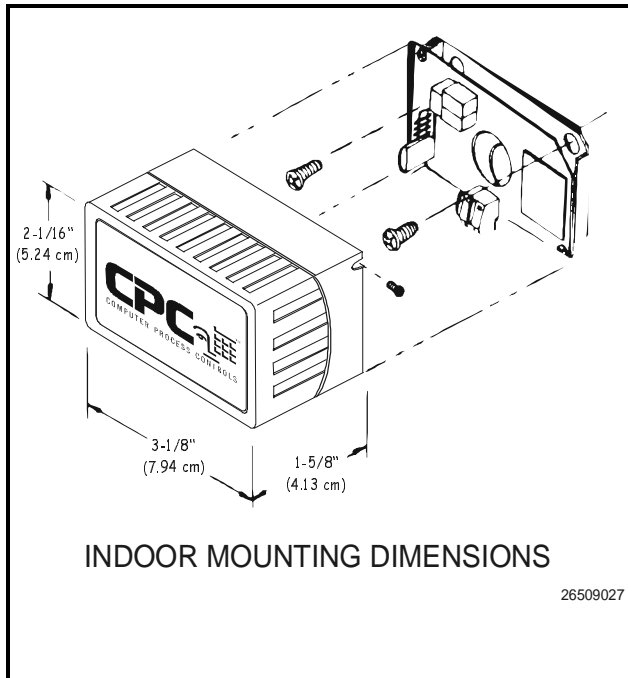

Figure 3-15 - Indoor RH Mounting Dimensions
2. Mount the sensor to the wall using the two mounting holes near the flattened corners of the mounting plate (as shown in *Figure 3-15*).